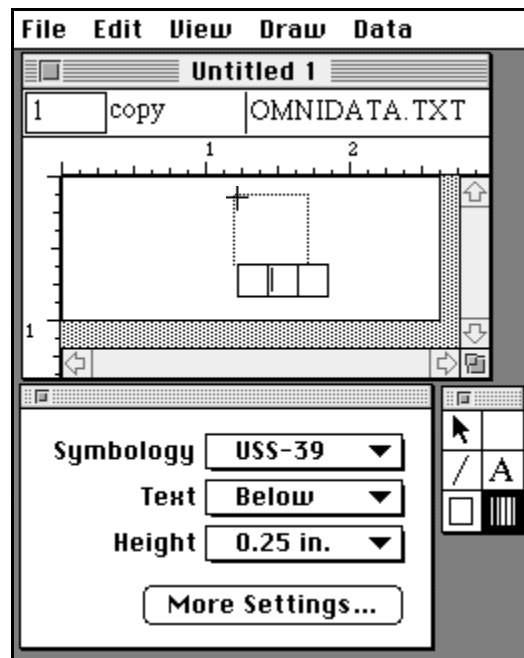

Figure 2-17 Bar Code Tool Selected and Step 8 Completed
8. Select the bar code tool from the tool palette and click on a location at approximately the top of the work area. See Figure 2-17.